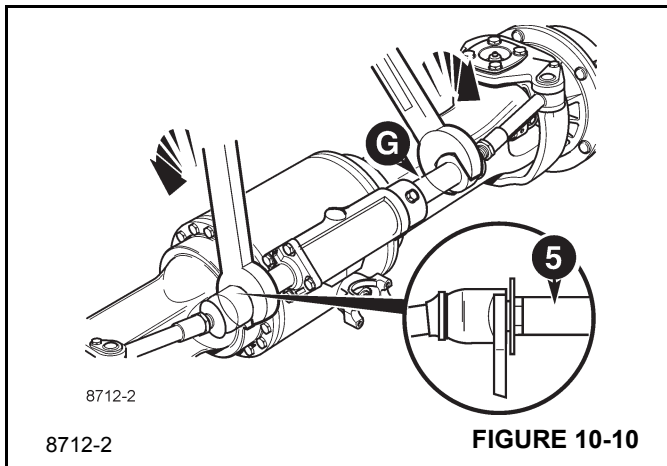

FIGURE 10-10
- b. Unscrew the ball joint until an open ended spanner can be fitted on rod **5** (Figure 10-10). Screw the ball joint against the spanner to secure the spanner and to prevent damage to the rod.